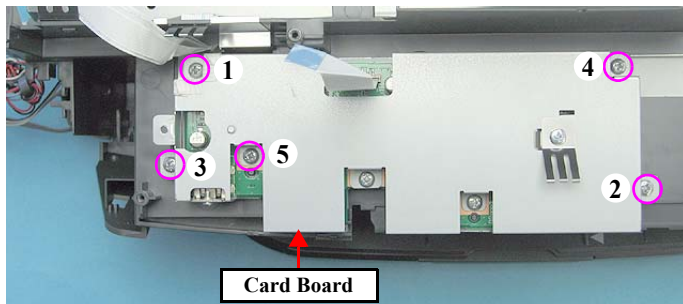

Figure 4-64. Removing the Card Board
- Screw the Card Board in the order given in Fig.4-64.